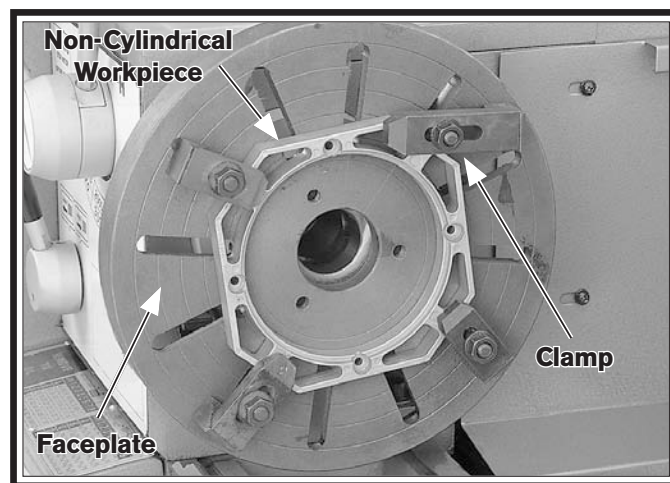

Figure 25. Example photo of workpiece clamped in a faceplate.
- Position the workpiece onto the faceplate and clamp it in place with a minimum of three independent clamping devices (see **Figure 25** for an example).